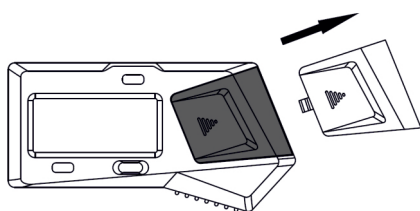

Fig. 1
- » Remove the battery cover (Fig. 1).
- » For a flat or spherical contact point, place the depth gauge bridge on a flat surface. Gently pull the millimeter scale so the contact point touches the surface and set the zero initial value by holding the “SET” button. Then measure depth A (see Fig. 1).